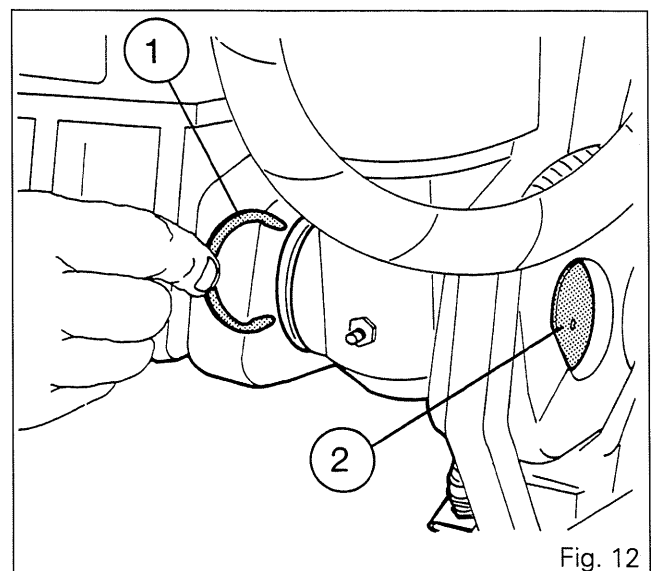

Fig. 12
24. Fit the lift ram pin (2). Replace the retaining ring (1) (Fig. 12).